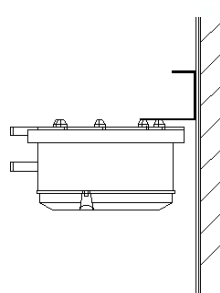

Fig. 3
- When it can only be installed as Fig. 3 (does not recommend), the switch value should minus about 10pa.